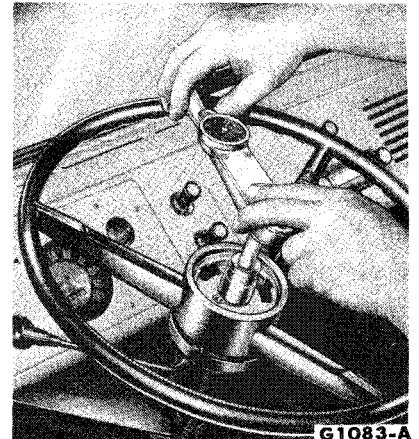

FIG. 2—Steering Gear Load Check
10. Measure the worm bearing preload by attaching an inch-pound torque wrench to the steering wheel nut (Fig. 2). Read the pull required to keep the wheel moving for at least one complete turn. If the torque or preload is not within specifications (Group 23), adjust as explained in the next step.
the worm past its center to ½ turn from either stop (Fig. 2). No perceptible backlash is permissible at 30° on either side of center.
ACCEPTABLE PATTERN. The drive pattern shown in Fig. 2 was rolled on a typical straddle-mounted type gear set. Since each pinion tooth came into contact with each drive gear tooth, the pattern is a result of the combined tooth contacts; therefore, the pattern is uniform from tooth to tooth.